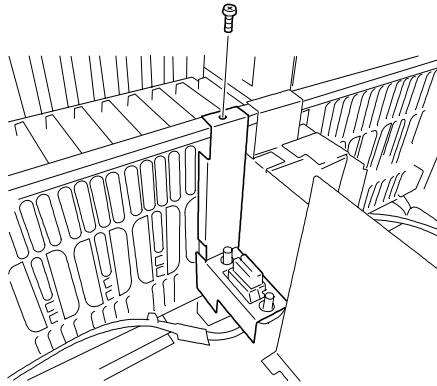

Figure 4-18. Removing the Rear Fan Module Connector Bracket Screw
8. Remove the screw securing the rear fan module connector bracket to the BSU chassis so that it can be relocated later, see Figure 4-18.